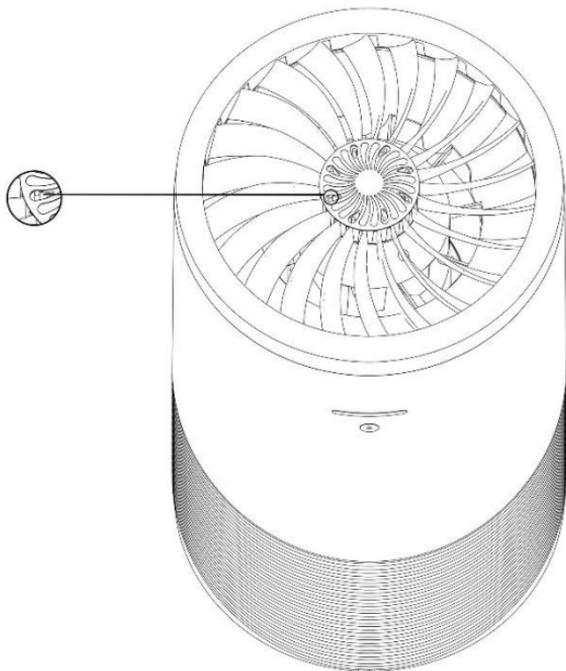

Figure 8 – Location of the negative ion discharge outlets
- The 8 negative ion discharge outlets are located at the centre of the top cover, as shown in Figure 8. These outlets easily attracts dust. Please wipe them using a soft cloth or microfiber cloth.